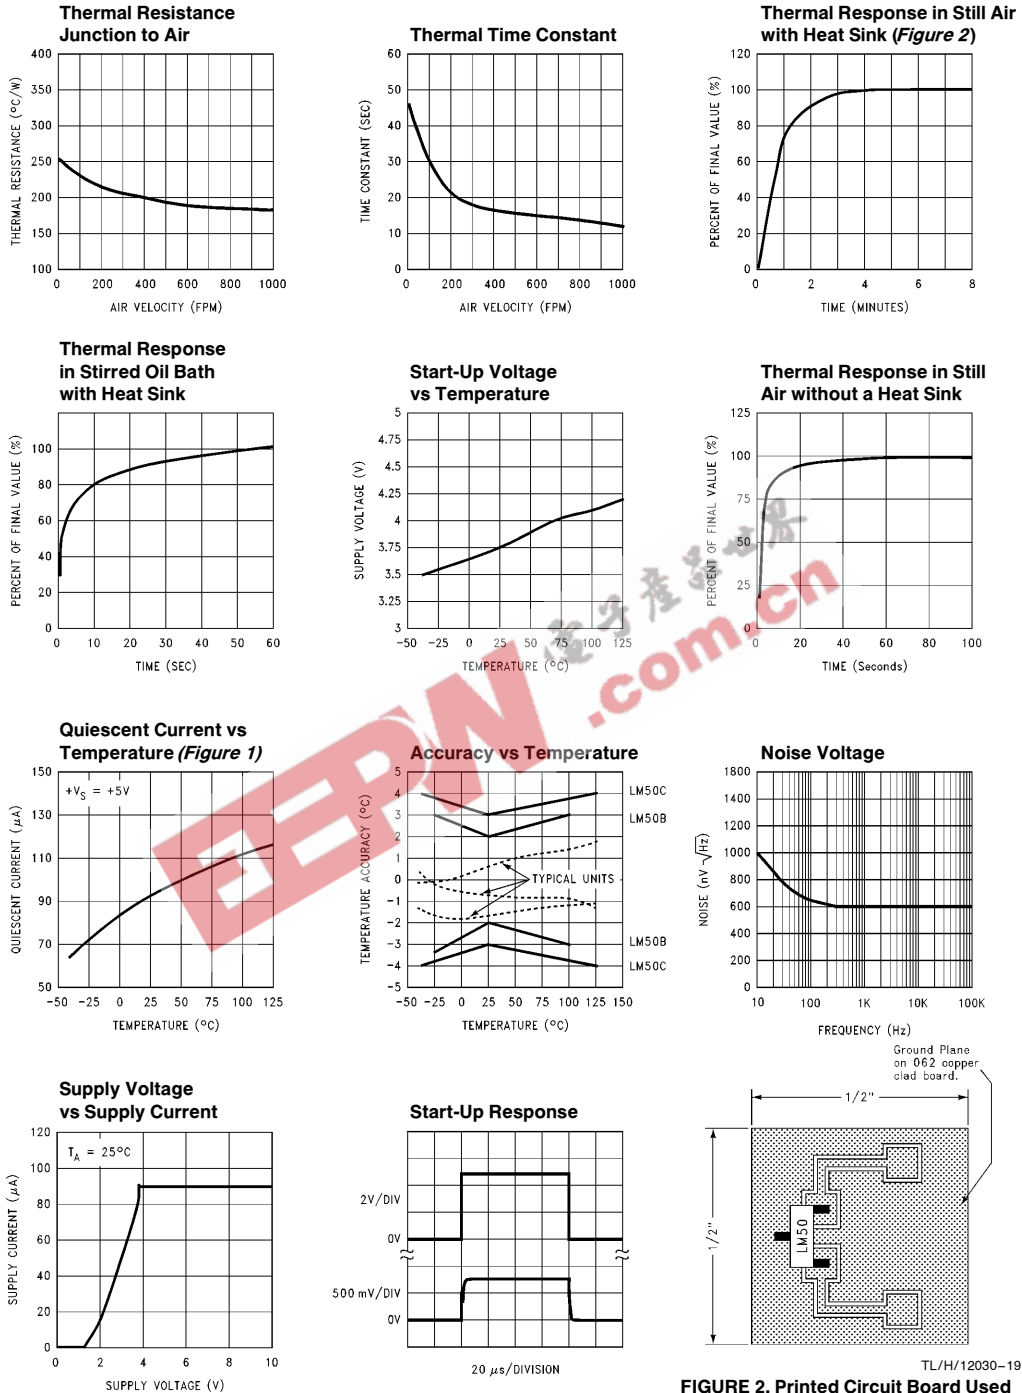

FIGURE 2. Printed Circuit Board Used for Heat Sink to Generate All Curves. 1/2" Square Printed Circuit Board with 2 oz. Foil or Similar
To generate these curves the LM50 was mounted to a printed circuit board as shown in *Figure 2*.
* Heat sink used is 1/2" square printed circuit board with 2 oz. foil with part attached as shown in Figure 2.